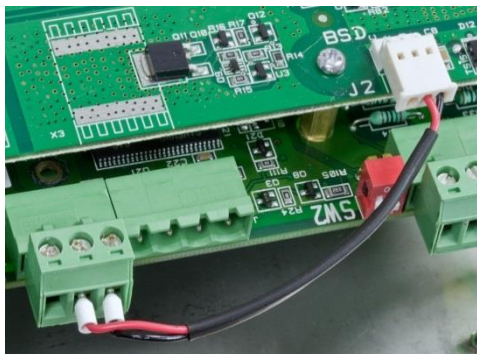

Figure A-31: IND560x-PAB (J2) to IND560x (J1) Connection
9. One further connection is required, between J2 of the IND560x-PAB and J1 of the IND560x main board. A connector is included in the IND560x-PAB installation kit. Install this connector according to the wire color code listed in Table A-9 and as shown in Figure A-31.